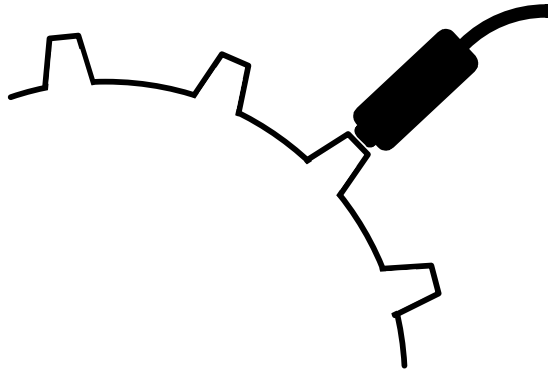
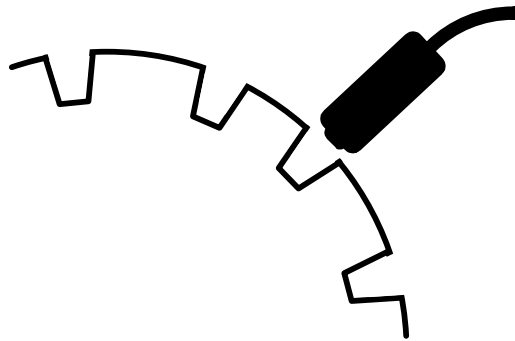
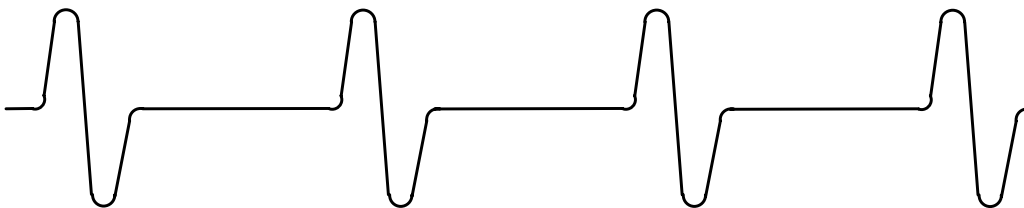
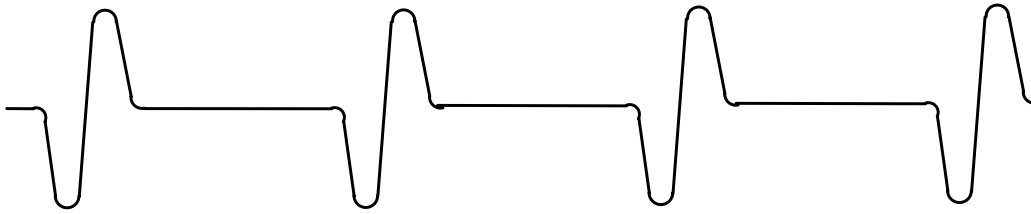

Figure 2. Positive tooth trigger wheel
Figure 3. Negative tooth trigger wheel
Figure 4. Correct signal polarity for VR input circuit
Figure 5. Incorrect signal polarity for VR input circuit
The VR Hall module provides up to six identical VR sensor inputs. A Variable Reluctance (VR) sensor is a standard production automotive speed sensor. It is an electro-magnetic sensing device containing a winding of wire around a permanent magnetic core. It relies on the movement of ferrous material (steel teeth) past the tip of the sensor to change the magnetic flux of the sensor. This creates a voltage pulse across the leads of the sensor's wire coil. Figures 4 and 5 below show a typical VR signal with respect to toothed wheels, as shown in figures 2 and 3. The VR signal will go positive as a tooth approaches the sensor tip. The signal will then rapidly swing back through zero precisely at the center of the tooth. As the tooth moves away from the sensor tip the voltage will continue in the negative direction and then return to zero.
Each VR sensor input requires two connections. The VR Hall module pins labeled VR1 thru VR6 are the positive sensor inputs. The negative sensor inputs must be connected to GND pins on the module. The polarity of the sensor connection to the module is critical. The leads of the sensor should be connected such that the positive input of the VR circuit sees the waveform shown in Figure 4. The waveform shown Figure 5 is incorrect, and the VR circuit will not properly respond to this waveform. The rapid zero crossing of the VR signal must be in the negative direction.
The polarity of the physical tooth or gap on the trigger wheel will contribute to the polarity of the voltage pulse from the sensor. Figure 2 demonstrates a positive physical tooth polarity and Figure 3 demonstrates a negative physical tooth polarity. Assuming the lead polarity of a sensor remained the same, one of the configurations would generate the waveform shown in Figure 4, while the other configuration would generate the waveform shown in Figure 5.